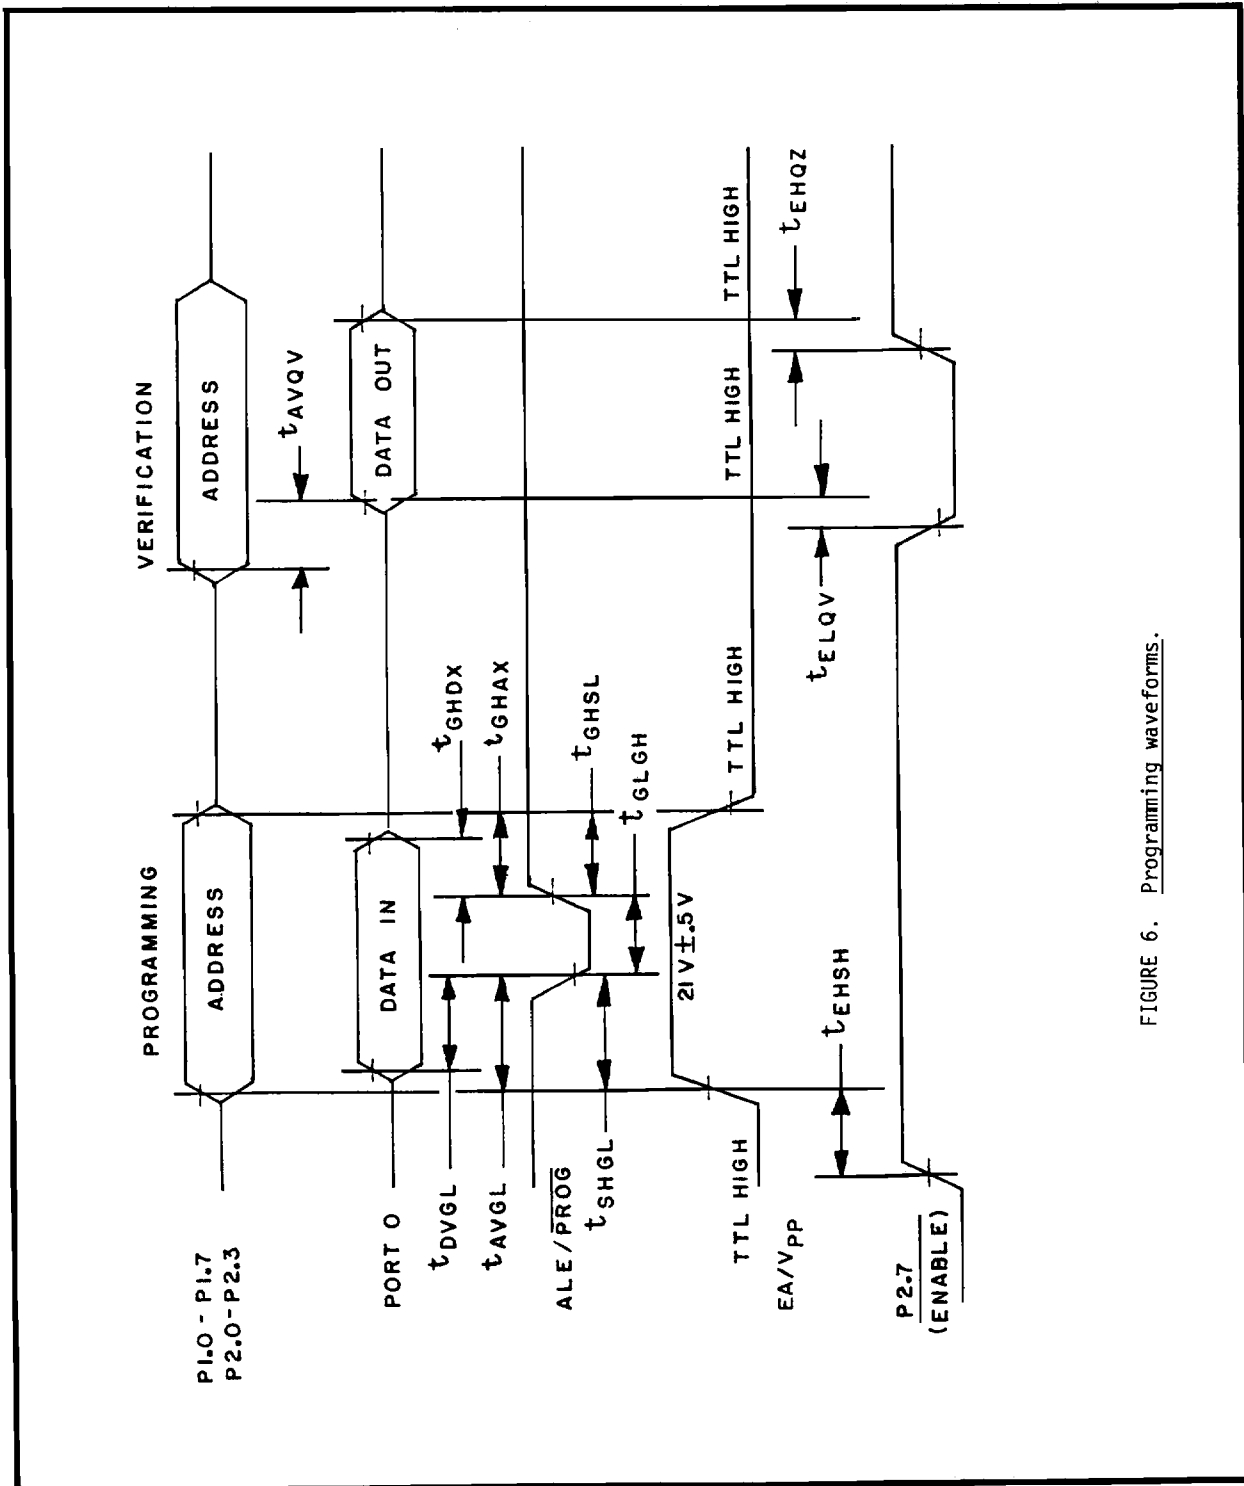

FIGURE 6. Programming waveforms.
- a. Connect the device in the electrical configuration (see figure 5) for programming the waveforms of figure 6 and programming characteristics of table III shall apply.